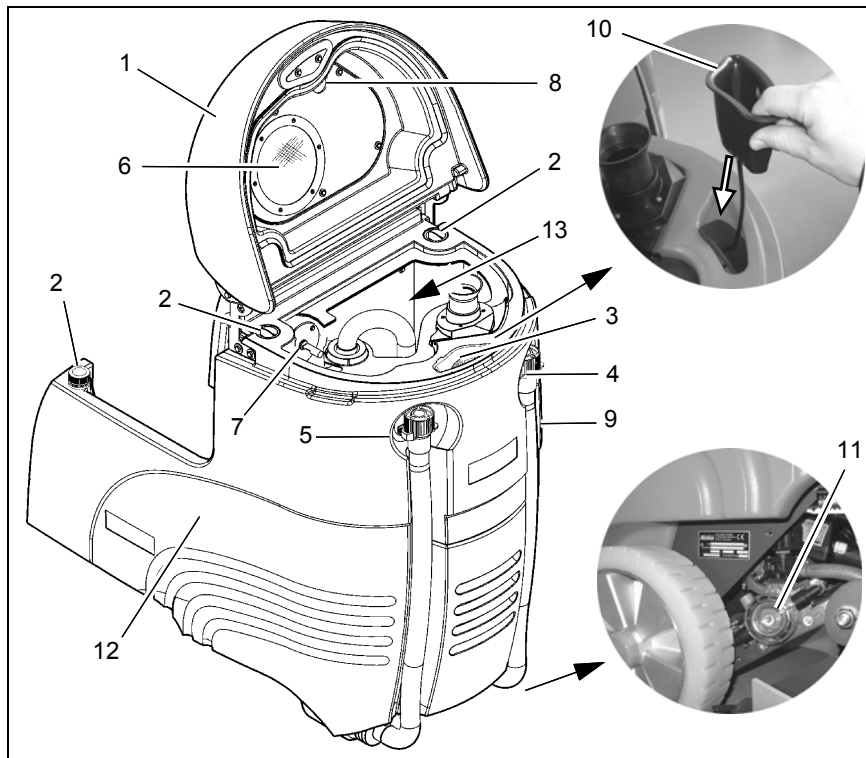

Fig. 24
Park the vehicle so that the draining hose (Fig. 24/4) is above a drain in the floor. Remove the draining hose from the holder and open the cap by turning it counterclockwise.
Use the maintenance opening (Fig. 24/ 2) to clean the clean water tank (Fig. 24/12).
Clean the filter sieve (Fig. 24/6) by inserting a hose in the opening (Fig. 24/8) and flushing the sieve back from the inside.
Check the clean water filter (Fig. 24/11) weekly and clean or replace it as necessary.
Clean the waste water tank (Fig. 24/13) every day or as necessary.
1. Open the tank cap (Fig. 24/1) on the waste water tank.
2. Remove the draining hose (Fig. 24/5) from the holder and empty the waste water tank completely.
The waste water tank must always be emptied and flushed clean after finishing work. The float switch (Fig. 24/7) must also be rinsed clean. The cap on the draining hose should be cleaned regularly. Lubricate the O-ring lightly, if necessary.